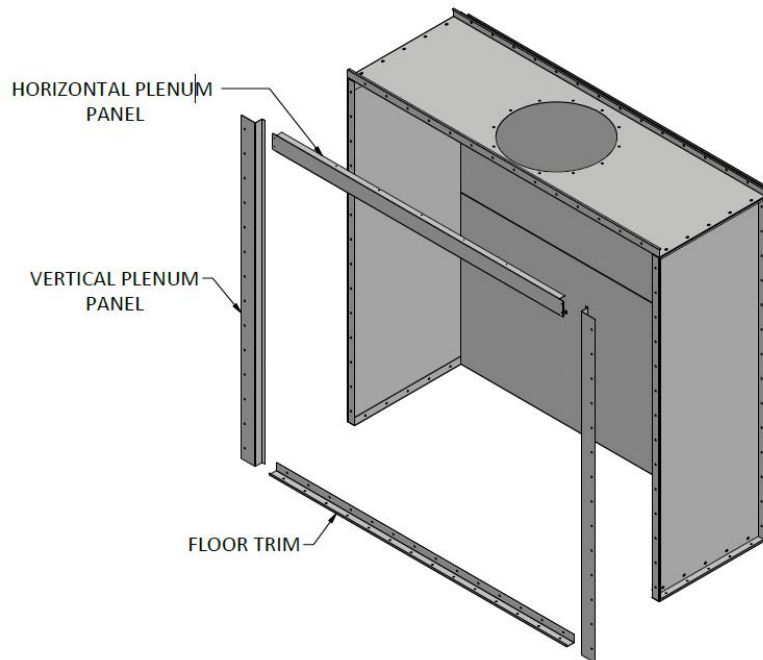

Figure 4 – Assembly of Floor Trim and Plenum Panels
- Install the horizontal plenum panel between the vertical plenum panels as shown in figure 4. Secure each side of the horizontal plenum panel using two #8-18 X 1/2 self-drilling screws. The horizontal plenum panel should also be fastened to the roof using self-drilling screws every 12”.